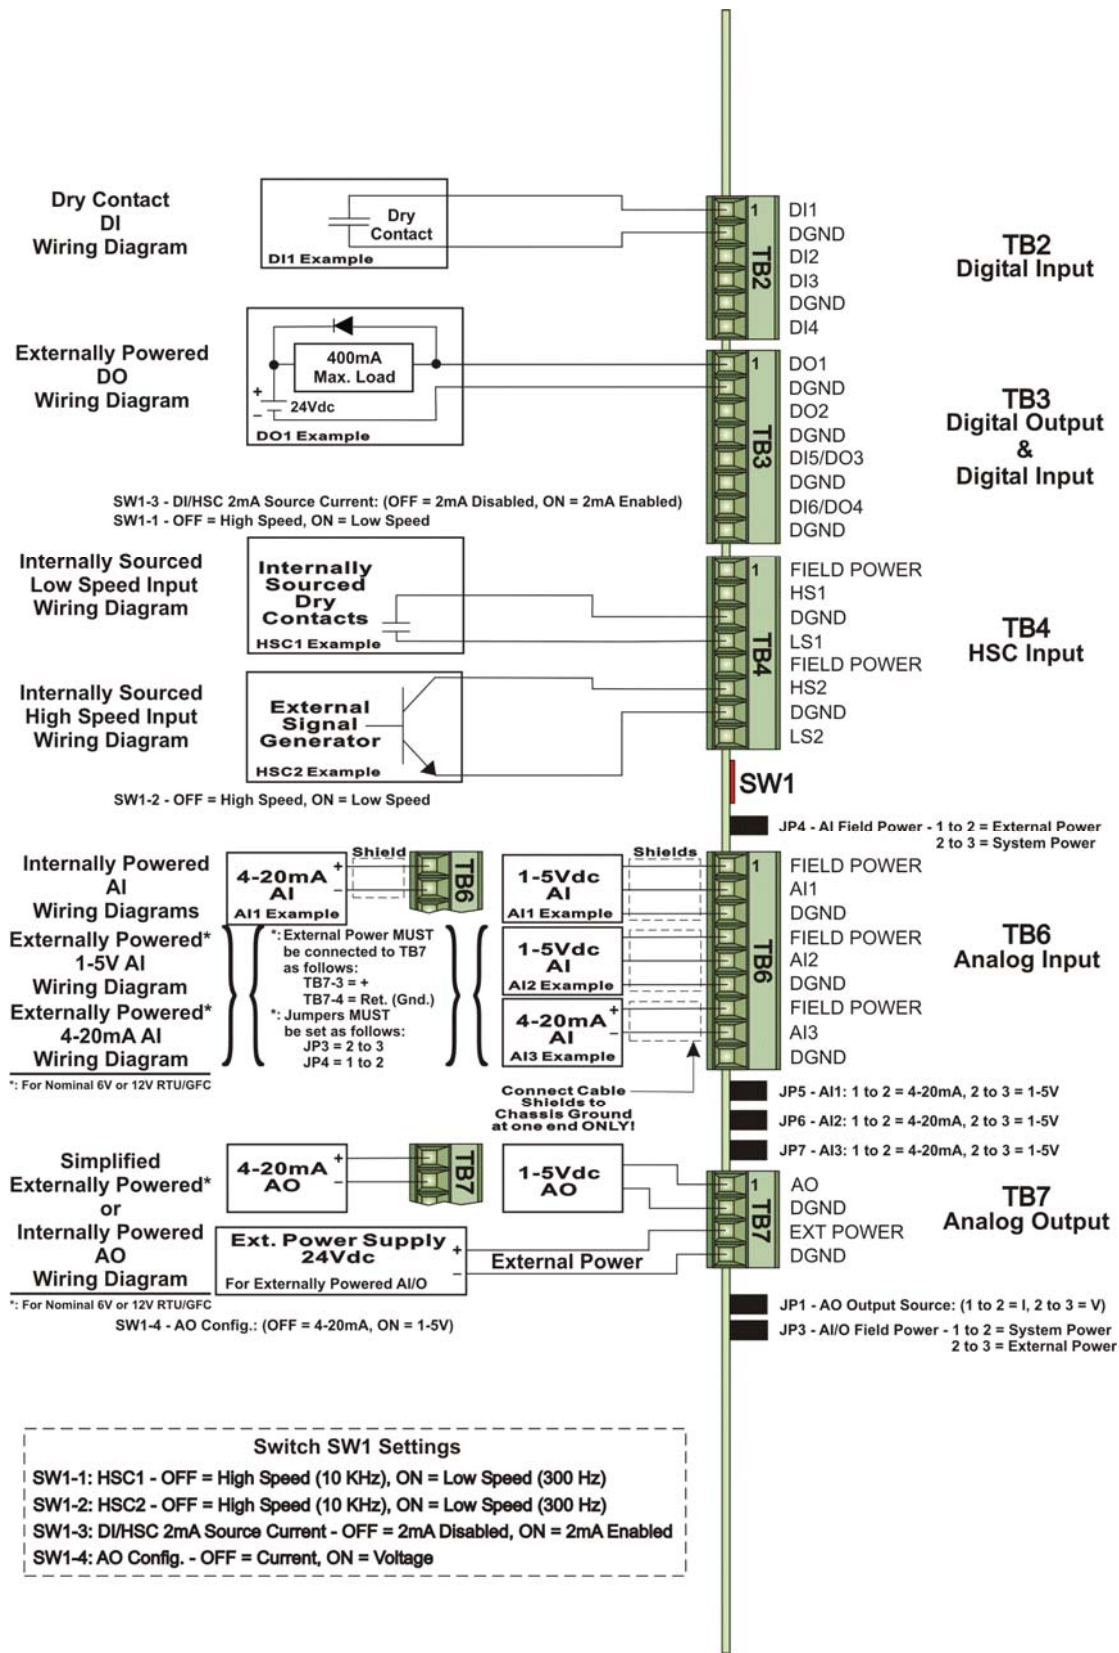

Figure 3-2. Process I/O Board Wiring Diagrams
**Wiring** See *Figure 3-2* for wiring diagrams.
**Wiring** Each AI includes three terminals (field power, AI# and DGND). See *Figure 3-2* for wiring diagrams. If using the ControlWave Loop Power Supply, see document *PIP-ControlWave-LS*.
**Wiring** See *Figure 3-2* for wiring diagrams. If using the ControlWave Loop Power Supply, see document *PIP-ControlWave-LS*.